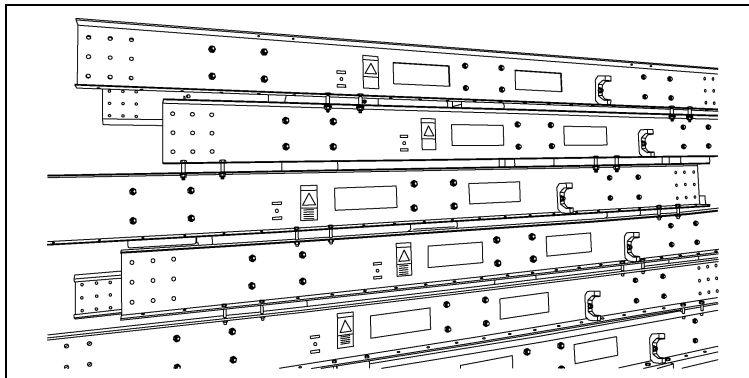

Figure 4D
2. Take note of the trunking identification/numbering system; use this to help you assemble the trunking in the correct order. Figure 4D shows the trunking sections shipped from Intersystems factory.